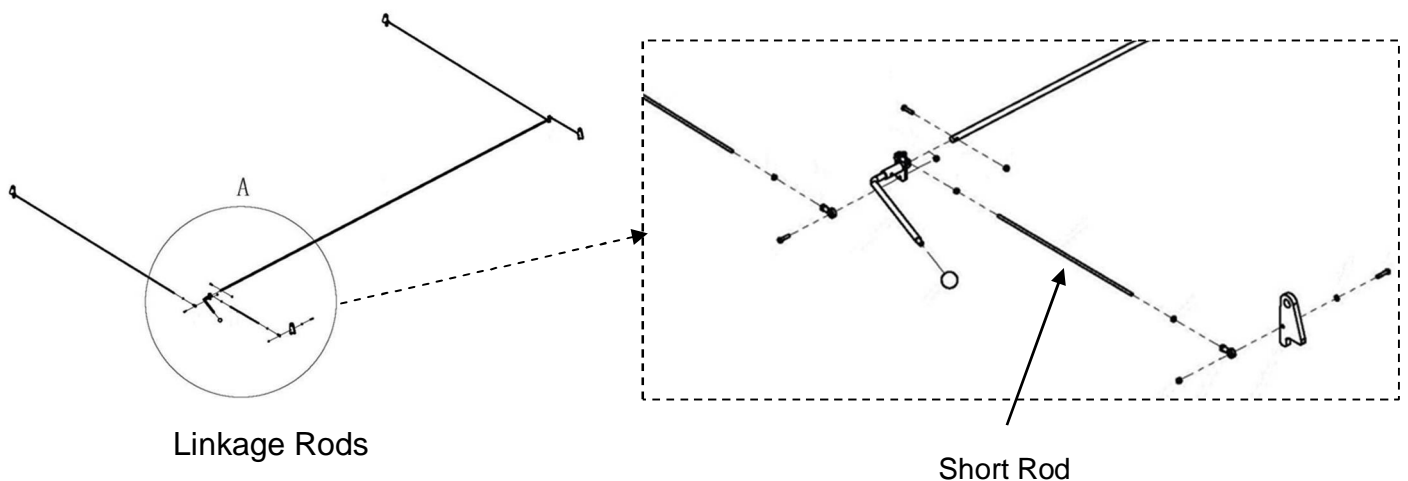

Fig. 4
9. Arrange the Crossbeams so that the Latches Linkage Rods are facing outward and the Short Rod (#83) is closest to the Power Unit Column, as shown in (Fig.4).